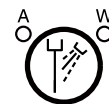

Fig.3-10 Coolant Water ON/OFF Switch
⑧ Coolant Water ON/OFF Switch (Fig.3-10) [E]